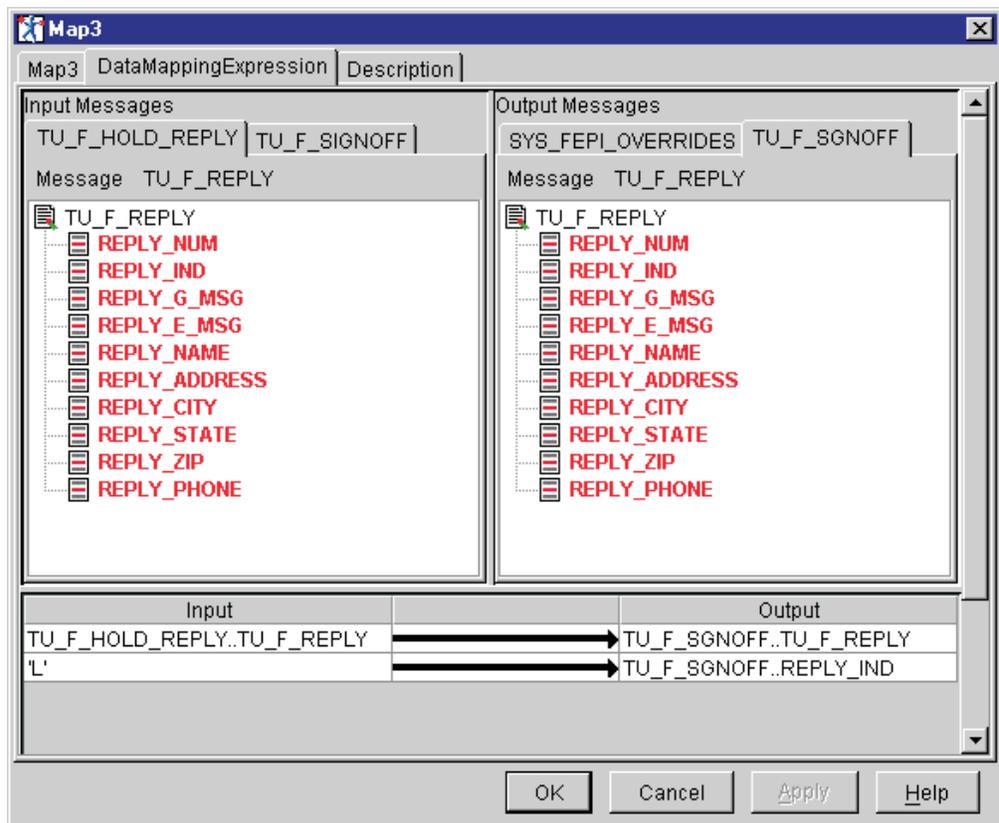

Figure 171. Mapping for Map3 node (TU\_F\_REPLY message to TU\_F\_REPLY message)
- d) Perform a literal mapping. Under the TU\_F\_SGNOFF Output Messages tab, right click on the REPLY\_IND field and select **Add element**. This will create a mapping that is labeled LITERAL on the input field. Double click on LITERAL field and rename it to 'L' (quotes must be used). This indicates that the signoff path will be followed. Refer to Figure 171 on page 220.